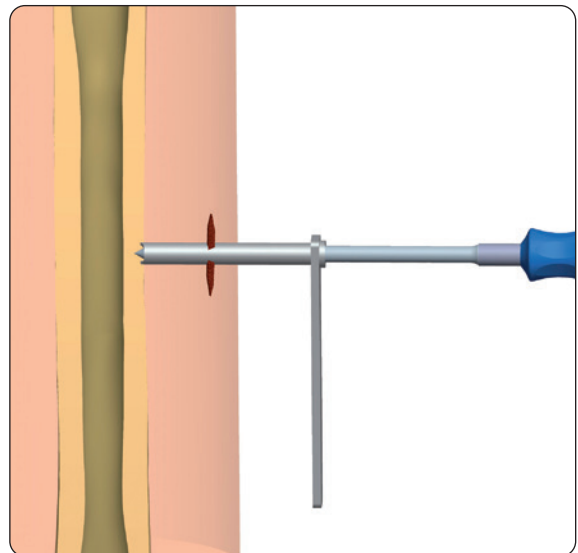

Fig. 2
2) Insert a screw guide perpendicular to the longitudinal axis of the bone. Use a trocar to locate the midline by palpation (**Fig. 2**).